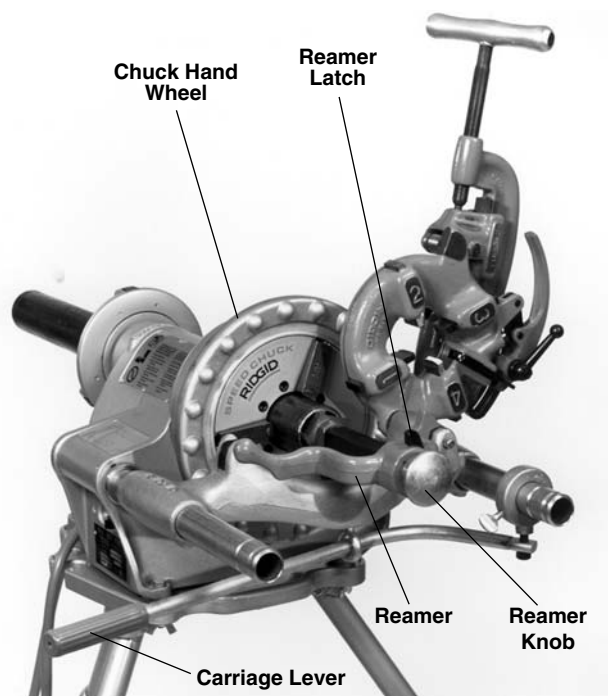

Figure 10 – Reaming Pipe with No. 341 Reamer
1. Move reamer arm down into reaming position (*Figure 10*).